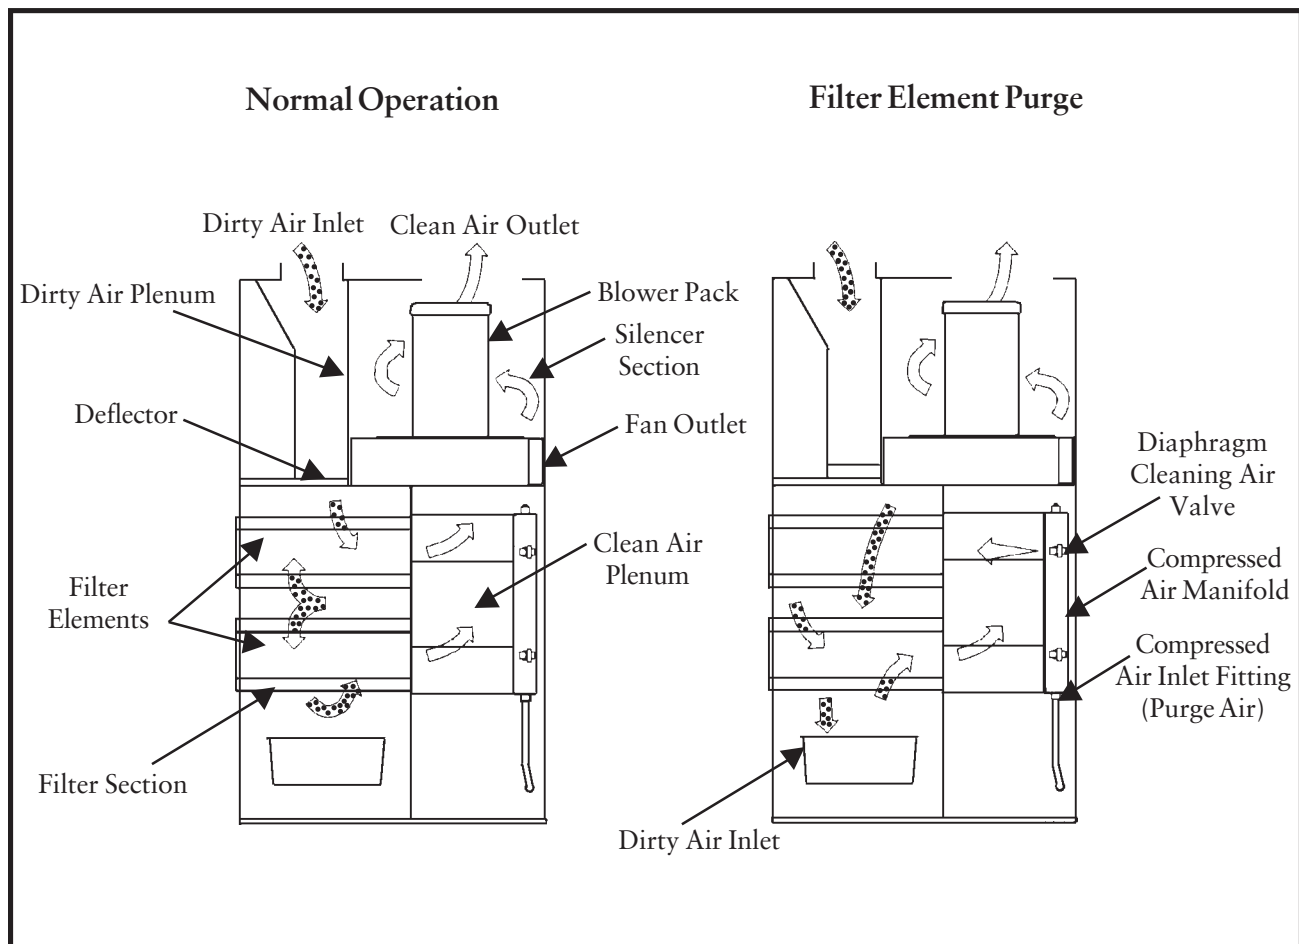

Figure 2
1.1 Operational Explanation (See Figure 2 Operational Schematic)